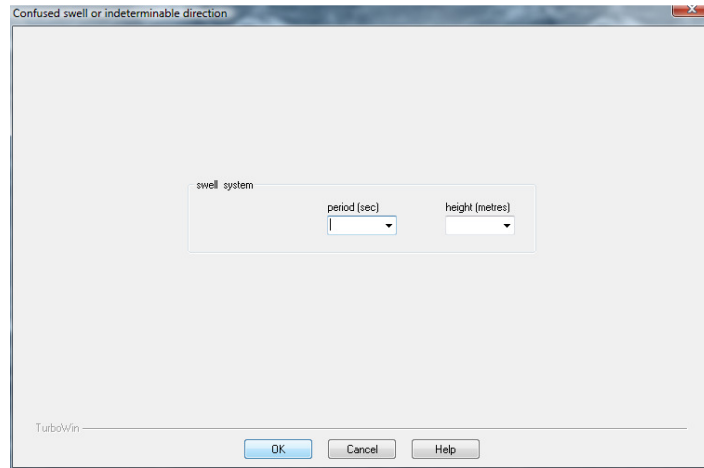

Figure 17. Confused swell or indeterminable direction
10.5.8.1. The dialogue box in **Figure 17** will appear if the **swell is confused or of indeterminate direction** (swell option 3, **Figure 16**).